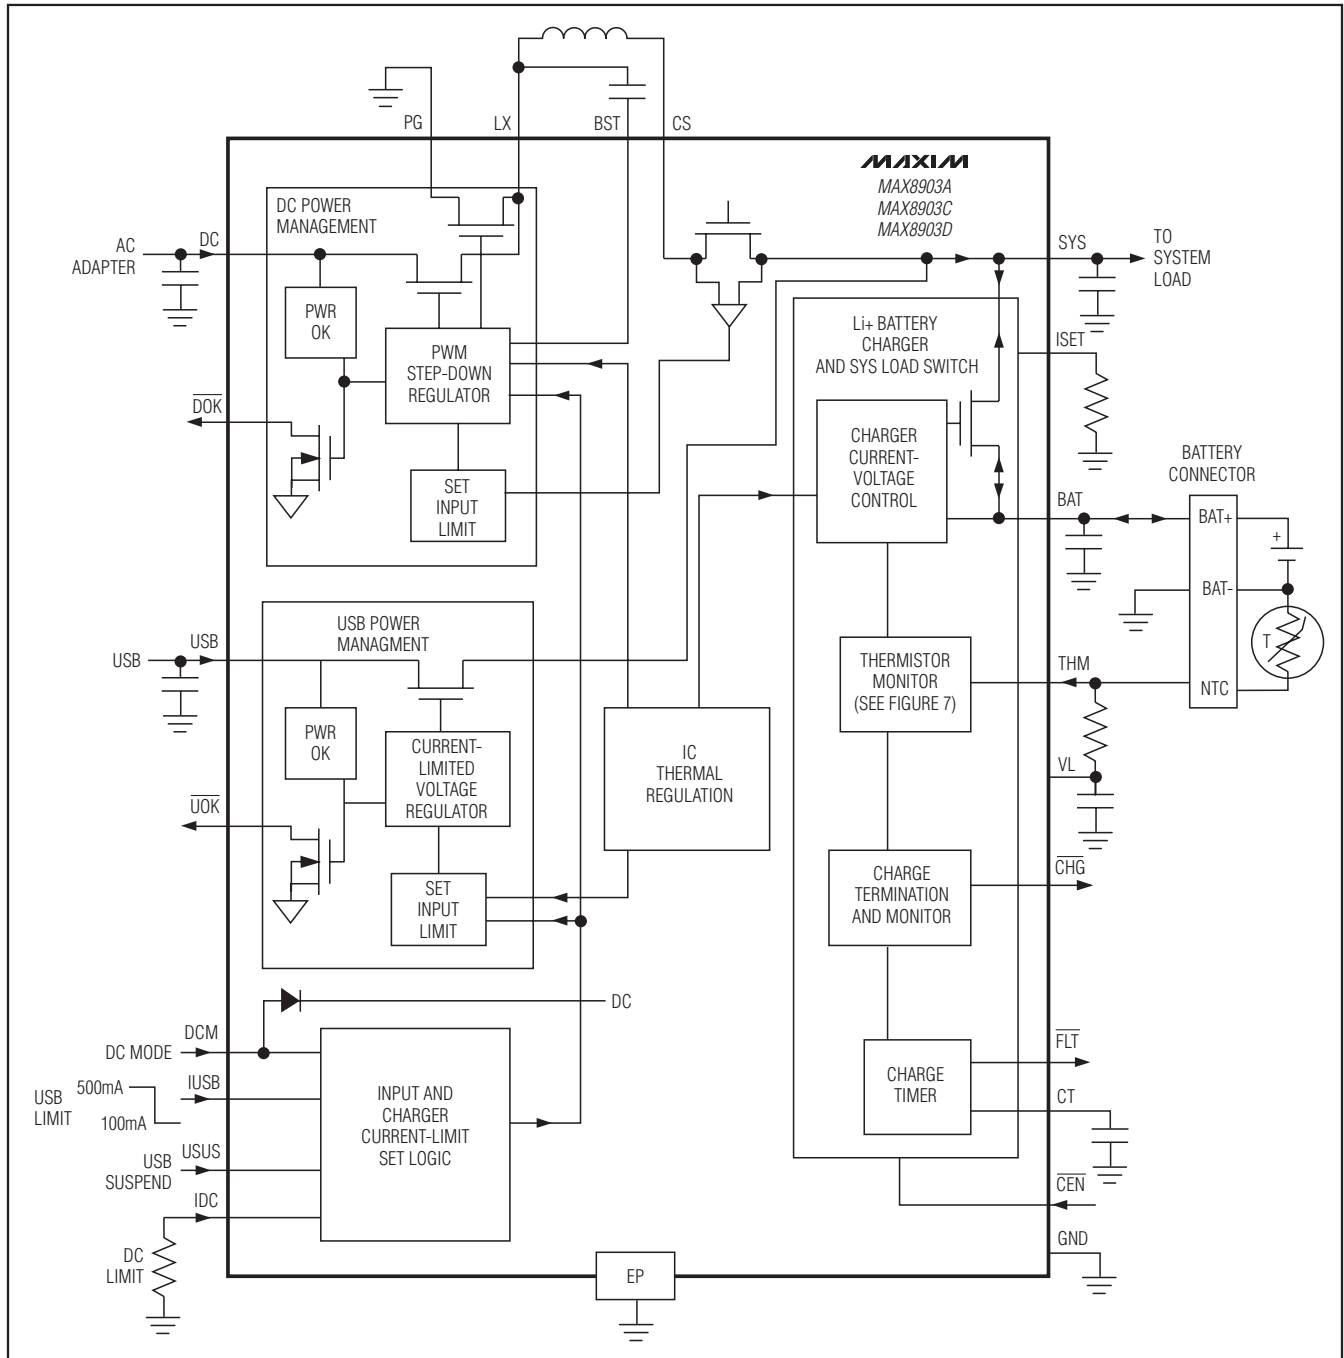
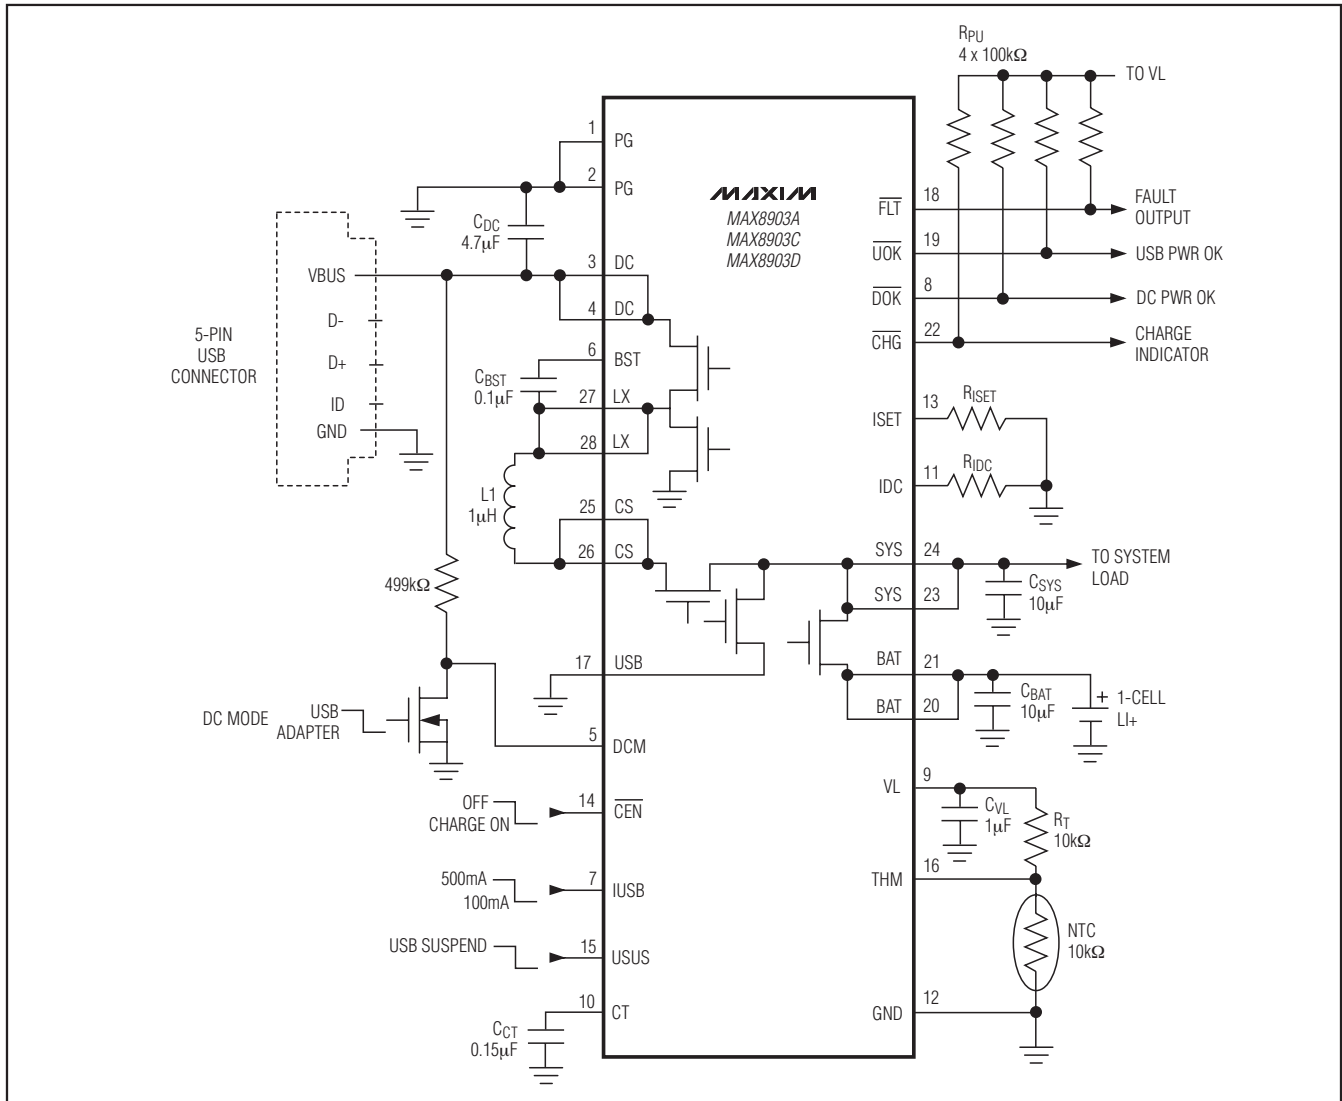

Figure 1. Functional Block Diagram
Figure 3. Typical Application Circuit Using a Mini 5 Style Connector or Other DC/USB Common Connector
As shown in Figure 1, the IC includes a full-featured charger with thermistor monitor, fault timer, charger status, and fault outputs. Also included are power-OK signals for both USB and DC. Flexibility is maintained with adjustable charge current, input current limit, and a minimum system voltage (when charging is scaled back to hold the system voltage up).
The DCM pin has an internal diode to DC as shown in Figure 1. To prevent current from flowing from DCM through the internal diode and to the DC input, DCM cannot be driven to a voltage higher than DC. The
circuit of Figure 3 shows a simple MOSFET and resistor on DCM to prevent any current from flowing from DCM through the internal diode to DC. This circuit of Figure 3 allows a microprocessor to drive the gate of the MOSFET to any state at any time.
An alternative to the simple MOSFET and resistor on DCM as shown in Figure 3 is to place a $1M\Omega$ resistor in series with the DCM input to the microprocessor. The microprocessor can then monitor the $\overline{DOK}$ output and make sure that whenever $\overline{DOK}$ is high DCM is also low. In the event that DCM is driven to a higher voltage than DC, the $1M\Omega$ series resistance limits the current from DCM through the internal diode to DC to a few μA .
***There is an internal diode from DCM (anode) to DC (cathode) as shown in Figure 1. If the DCM level needs to be set by a μP , use a MOSFET for isolation as shown in Figure 3.